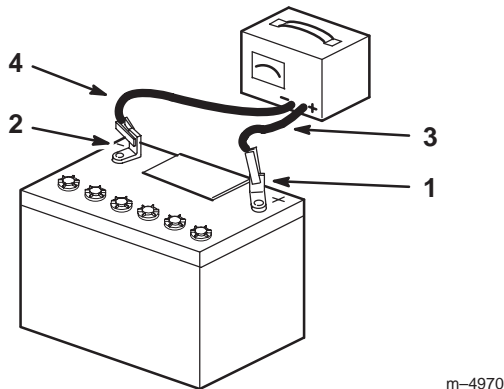

Figure 59
4. When the battery is fully charged, unplug the charger from the electrical outlet, then disconnect the charger leads from the battery posts (Fig. 59).